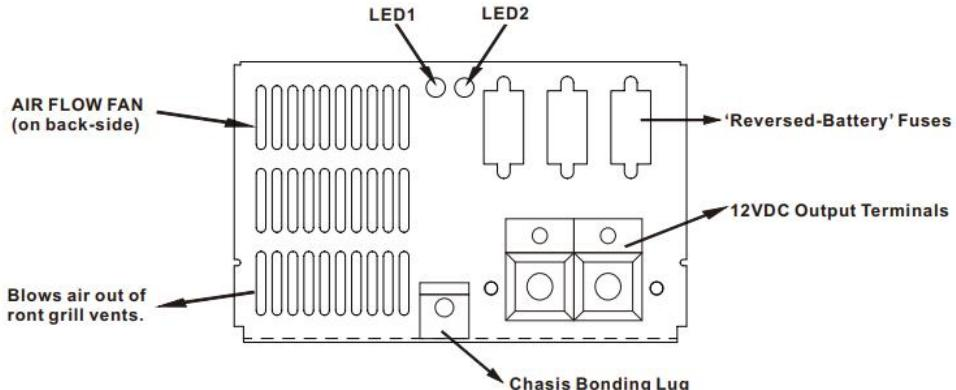

Figure 4
13.The green light on LED1 indicates that the output power is working normally or charging has ended, while the orange light indicates charging is in progress. Flashing indicates a malfunction.LED2 green light indicates working in lead-acid battery charging mode, red light indicates working in fixed output mode, orange light, etc. indicates working in lithium battery mode.(Figure 4).